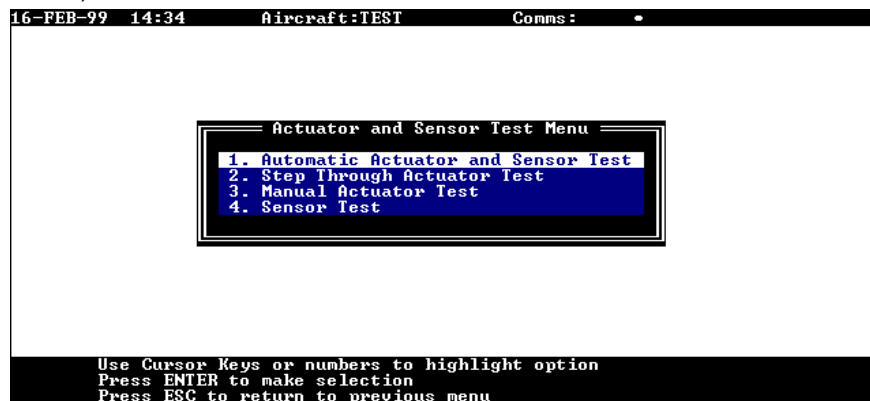
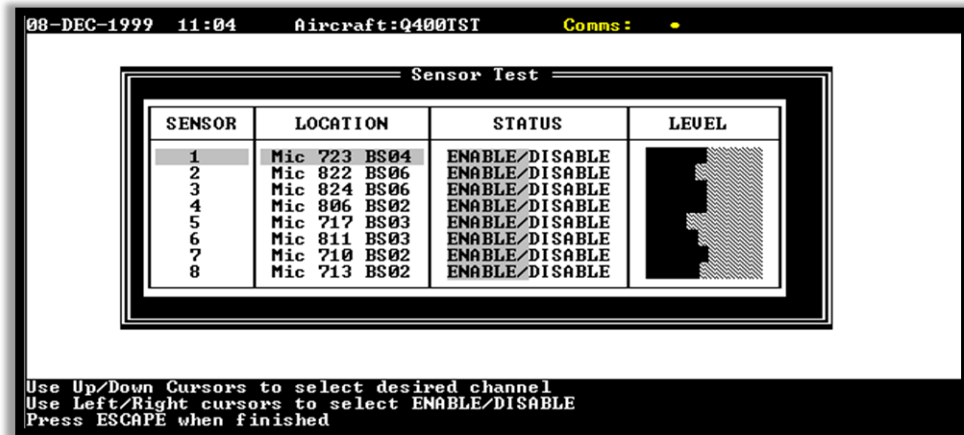

Figure 3.14 – 'Actuator and Sensor Test Menu'.
Figure 3.21 – 'Sensor Test' screen.
(1) Actuator and Sensor Test Menu
- (a) Select 'Actuator and Sensor Test Menu' from the 'Main Menu' and press <ENTER>. The 'Actuator and Sensor Test Menu' will be shown on the MT display (Ref. Figure 3.14).
- (g) Press <ESC> to return to the 'Actuator and Sensor Test Menu' (Ref. Figure 3.14).
- (3) Step Through Actuator Test
- (a) From the 'Actuator and Sensor Test Menu' (Ref. Figure 3.14), select 'Step Through Actuator Test' and press <ENTER>. The 'Step Through Actuator Test' screen will be shown on the MT display (Ref. Figure 3.18).
From the 'Actuator and Sensor Test Menu' (Ref. Figure 3.14), select 'Manual Actuator Test' and press <ENTER>. The MT will ask you to "Enter Actuator Number." Type in the number of the actuator to be tested and press <ENTER>. The 'Manual Actuator Test' screen will be shown on the MT display (Ref. Figure 3.20).
From the 'Actuator and Sensor Test Menu' (Ref. Figure 3.14), select 'Sensor Test' and press <ENTER>. The 'Sensor Test' screen will be shown on the MT display (Ref. Figure 3.21).